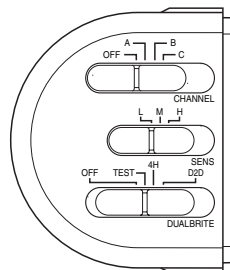

Figure 7
2. Slide the CHANNEL switch to OFF, the sensitivity (SENS) switch to the “L” position, and the DUALBRITE switch to the TEST position (see Figure 7). *Note:* The TEST mode overrides the photocell (daylight shutoff feature) and allows the light fixture to be tested day or night.
1. Slide the CHANNEL switch to the desired channel (A, B, or C) on all lights to be linked together (see Figure 7).